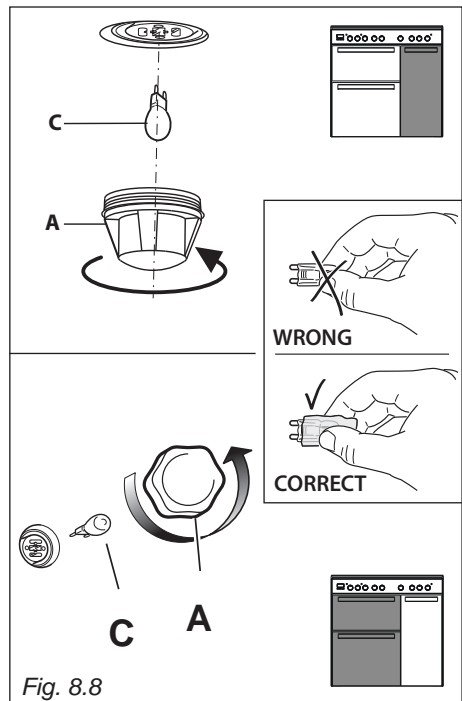

Fig. 8.8
- Remove the protective cover "A" (fig. 8.8).